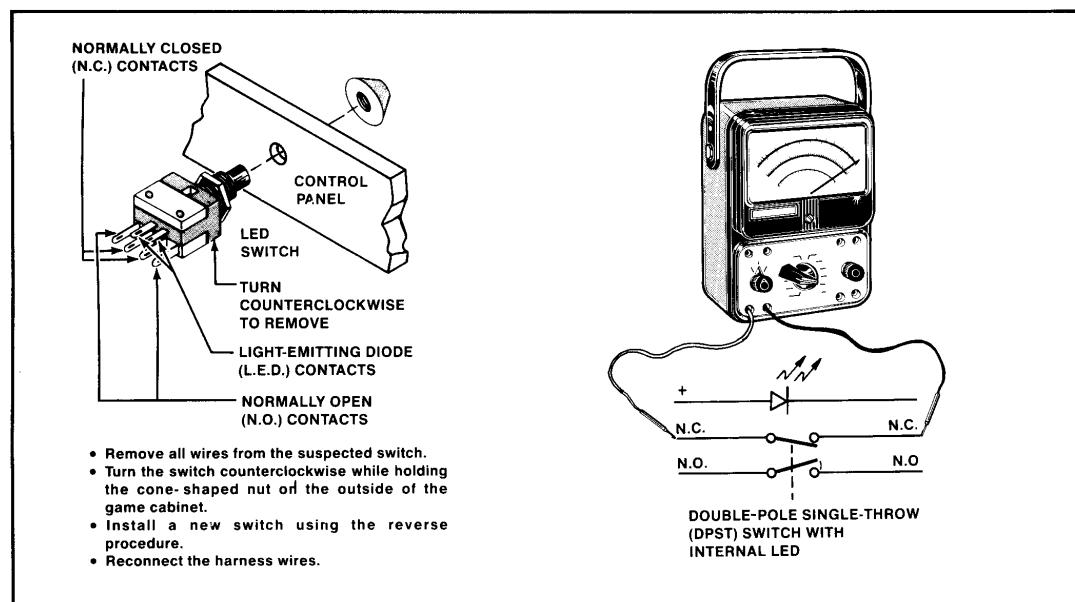

Figure 4-14 LED (LICON) Play Select Pass Switch Removal
J. LED (LICON) PLAY SELECT/PASS SWITCH REMOVAL (See Figure 4-14)
5. Connect multimeter leads to appropriate LED switch contacts. (See Figure 4-14 for designation of switch contacts and meter lead placement.)
7. If the contacts do not operate sharply or always remain closed or open, then replace the LED switch as outlined in Figure 4-14.